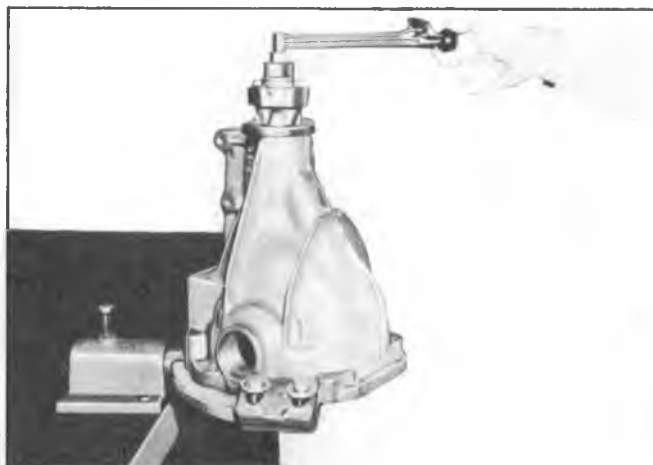

Fig. 20C--Measuring Drive Pinion Bearing Preload
8. Install a new nut on pinion shaft. Tighten nut to remove end play--continue alternately tightening in small increments, and checking preload with torque wrench J-5853 and adapter J-5810 until torque required to rotate pinion is 20-30 in. lbs. for new bearings and seal, or 5-15 in. lbs. when used parts are reinstalled. See Figure 20C.